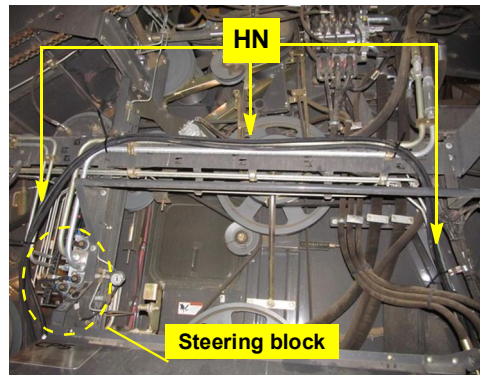

Figure 5b: Steering hoses routed to block
- c. Route steering hoses **HN** forward, up and along the horizontal frame, then down to the steering block. Use tie straps **HO** to secure the hoses with existing machine plumbing (Figure 5b).